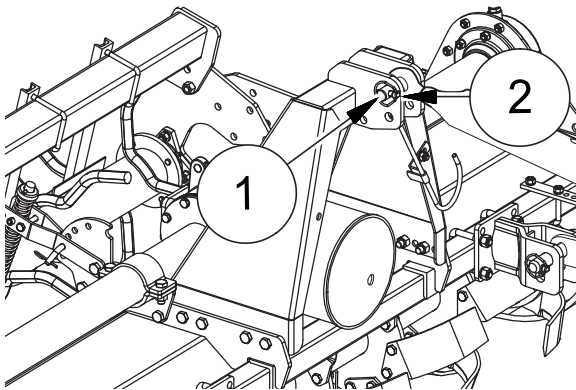

FIG. 19
- Move the tie-rod of the power-lift to the three-point hitch ("Fig. 19"). Set the tie rod so that the machine stays on the ground. Insert the attachment pin (1). Lock the pin with the trigger split pin (2), part of standard equipment.